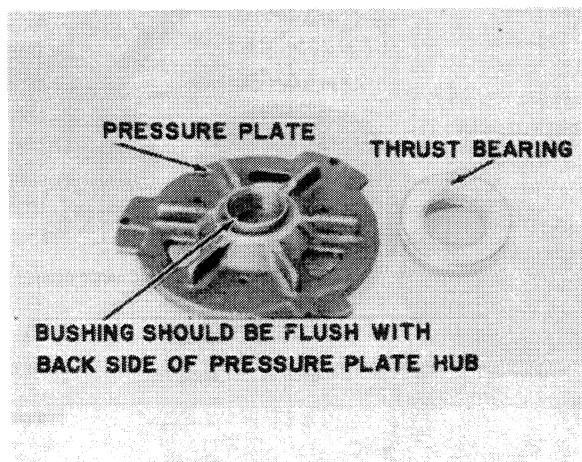

FIGURE 15
- 5A. Inspect the pressure plate and bearing assembly components, see Figure 15. If for part replacement, it should be necessary to disassemble these components, the following procedure should be followed: Remove the bearing assembly and then press out the bushing.